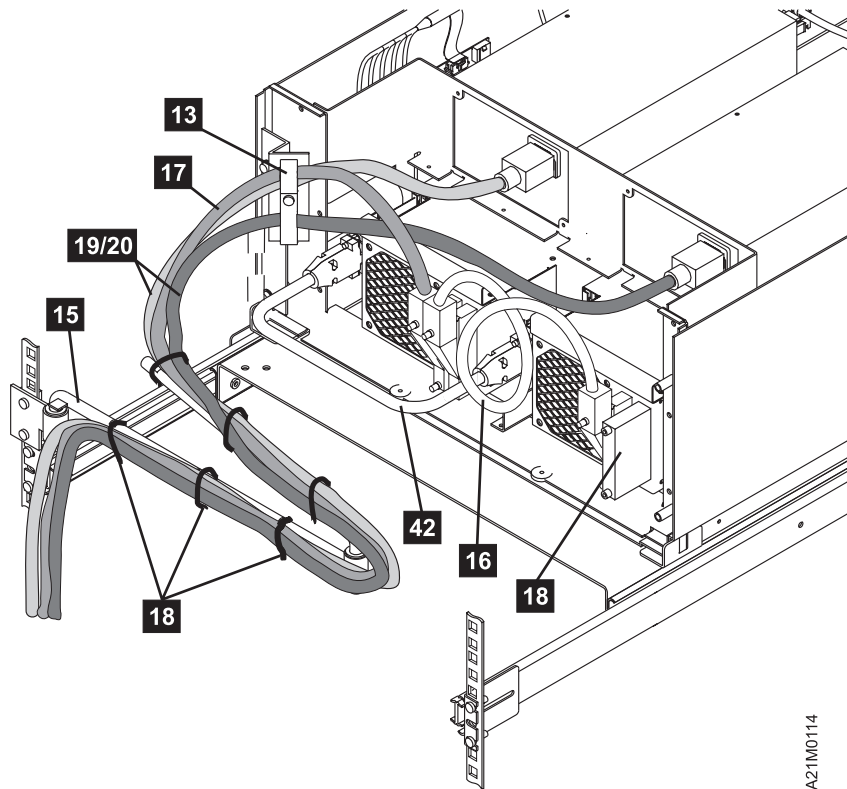

Figure 45. Model B22 (Dual-Drive Single-Host) Cable Routing
- \_\_\_ Step 5. Install the long SCSI host cable . Insert the right-angled plug into the left-most 68-pin socket (see Figure 45 on page 84) of drive 1 so the cable is looped upward. Route it to the upper wing of the clamp (loop the cable so it does not extend above the top of the 3570 you are installing). With both the power cord **19/20** and the SCSI cable **17** from drive 1 captured in the upper wing of the clamp, and the power cord **19/20** from drive 2 captured in the lower wing of the clamp, tighten the screw.